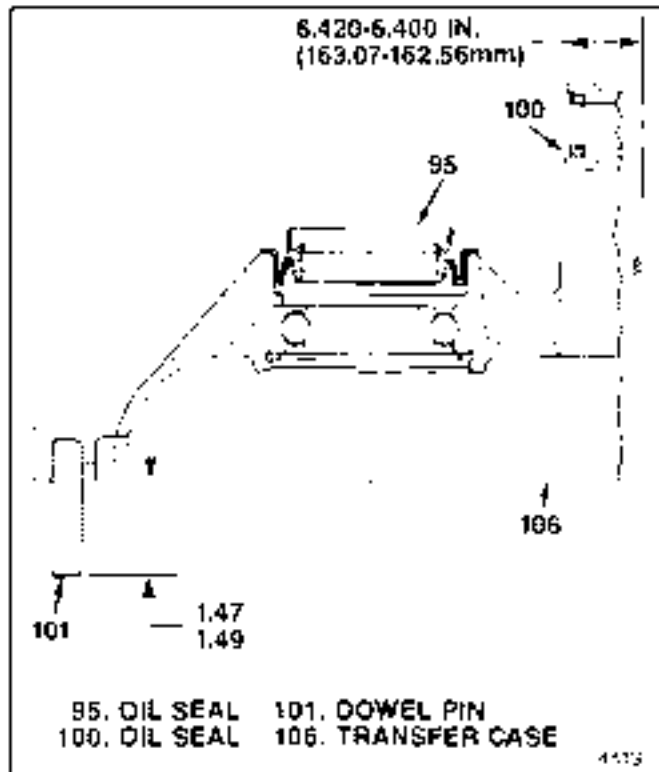

Figure 5-2. Installing Parts in Transfer Case
a. Install gasket (105), PTO cover (104) and four bolts (103). Torque bolts to 15-30 lb-ft (20.3-40.7 Nm).
b. If removed, press two new dowel pins (101) into transfer case to dimension shown in figure 5-2.
c. Press in new oil seal (100) to dimension shown in figure 5-2.
d. Press in ball bearing (99) to bottom in transfer case (5-1106) and install snap ring (98).
e. Press in ball bearing (97) to bottom in transfer case (106) and install retaining ring (96).
f. Position new oil seal (95) as shown in figure 5-2 and press in to seat seal flange against transfer case (106).